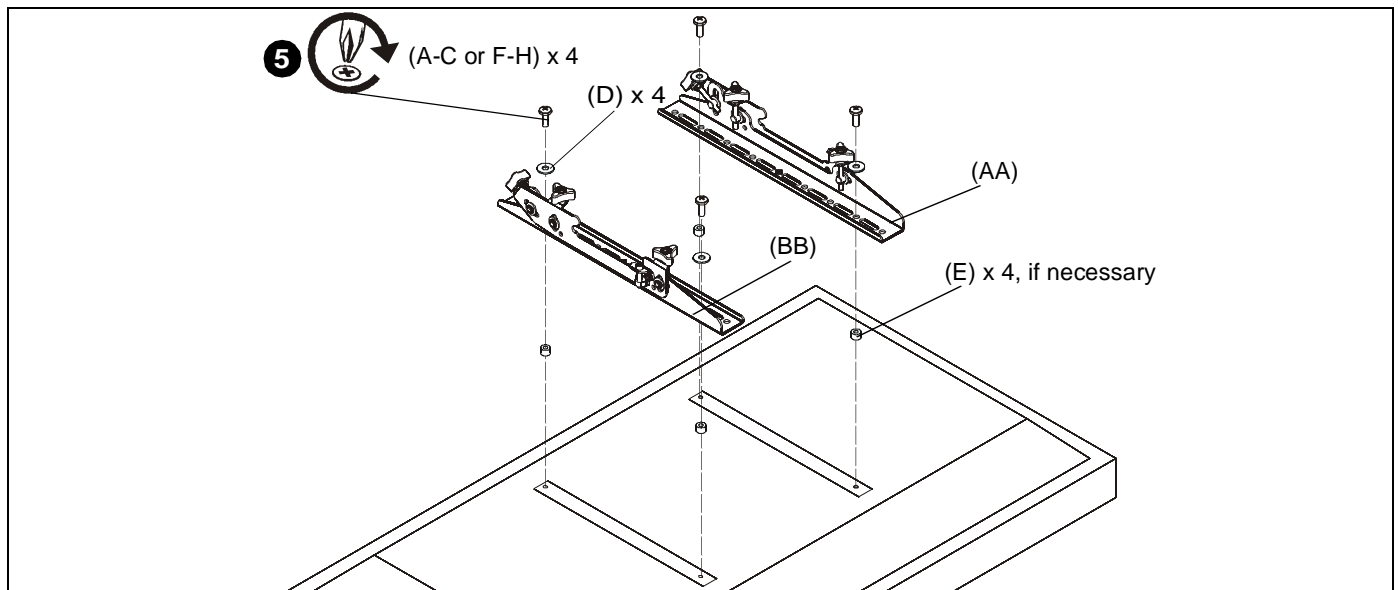

Figure 15
2. Select screw *diameter* by examining hardware (A-C and F-H) (6mm or 8mm) and comparing with mounting holes on display. (See Figure 15)
- If mounting holes are recessed, or if protrusions prevent brackets (AA and BB) from laying flat, then spacers (E) must be used.
4. Select screw *length*: (See Figure 15)
- Using your hand, insert **SHORTEST** length screw of selected diameter (A or F) through 1/4" washer (D), bracket (AA or BB), selected spacer (E, if required), into display mounting hole. Do **NOT** thread screw into hole at this time.
5. Use selected screws (A-C or F-H), washers (D) and spacers (E), if necessary, to connect interface brackets (AA and BB) to back of display. Make sure diamond on interface brackets is even with center of display. (See Figure 15)